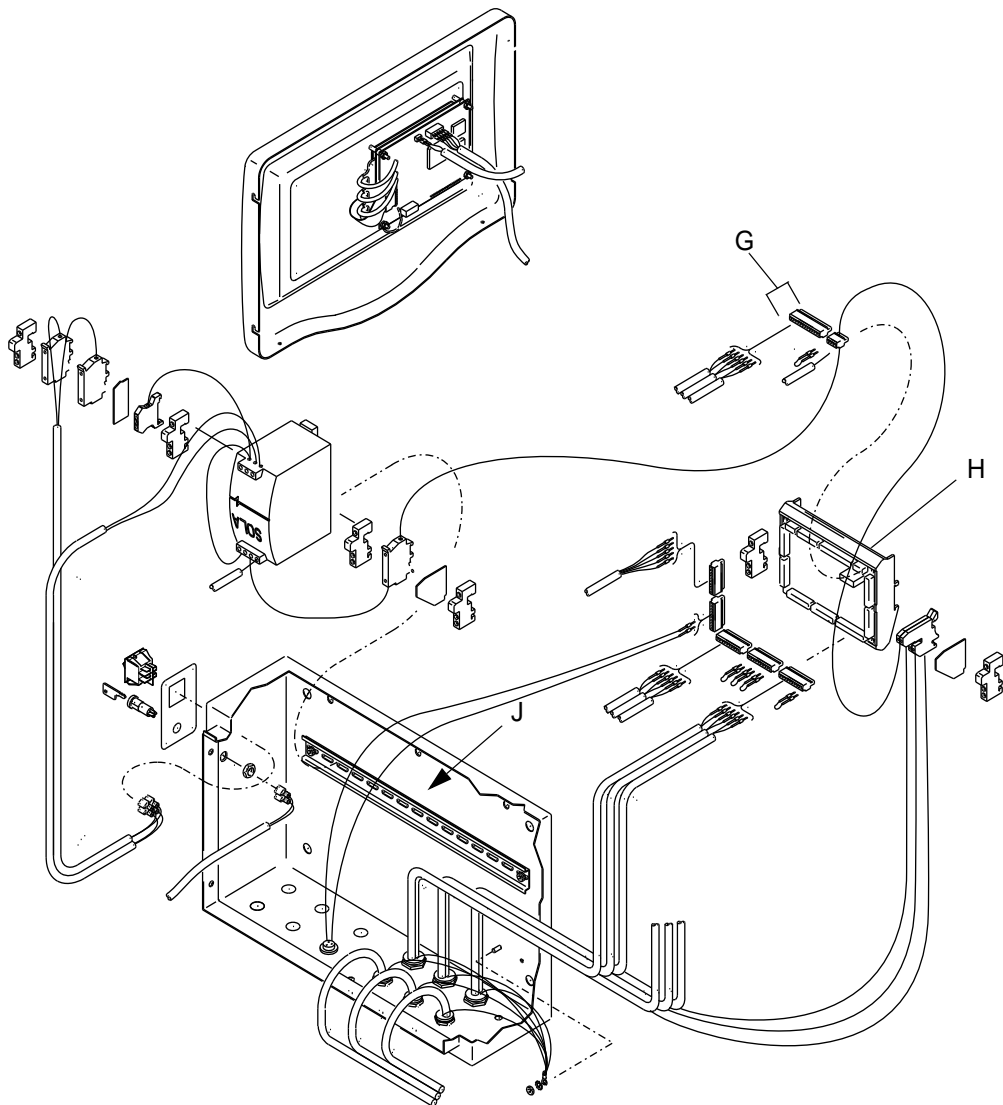

FIG. 16
3. Unplug all wire connectors (G) from the main board (H). See FIG. 16.
4. Squeeze release clips and pull the main board (H) away from the din rail (J).